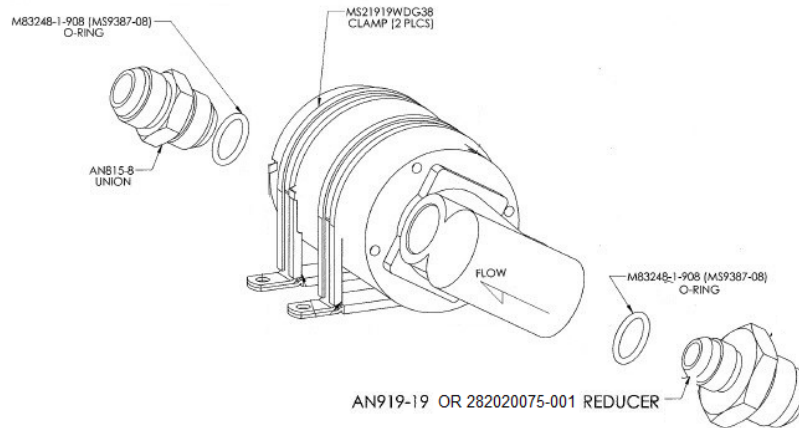

Figure 72-5
- 6) Remove and discard AN815-8 Union, AN919-19 Reducer, and (2) M83248-1-908 O-Rings from pump. Cap all open connections of the pump. See Figure 72-5.